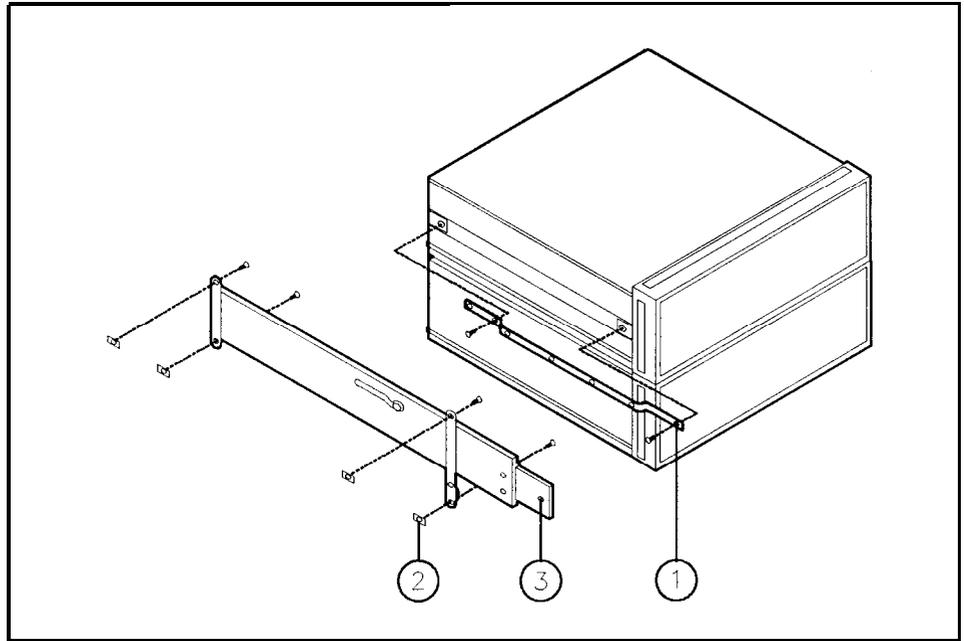

Figure 2-13. Attaching the Inner-Member Brackets
17. Attach one slide inner-member bracket to each side of the instrument using two M5x0.8x10 pan-head screws per side. See callout in 1 of Figure 2-13.
- a. Insert two Unistrut nuts, callout 2 in Figure 2-13, into each of the two vertical columns on the left side of the system cabinet. Insert two Unistrut nuts into each of the two vertical columns on the right side of the system cabinet.
- b. Bolt an outer slide mount to the Unistrut nuts in each side of the systems cabinet, using four M5x0.8x12 pan-head screws per side. See callout in 3 of Figure 2-13.